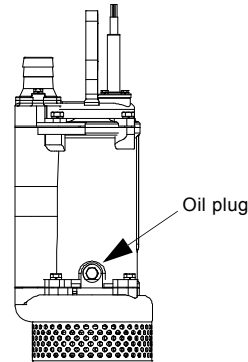

Fig. 12 Position of oil screw
1. Unscrew the oil plug. See fig. 12.